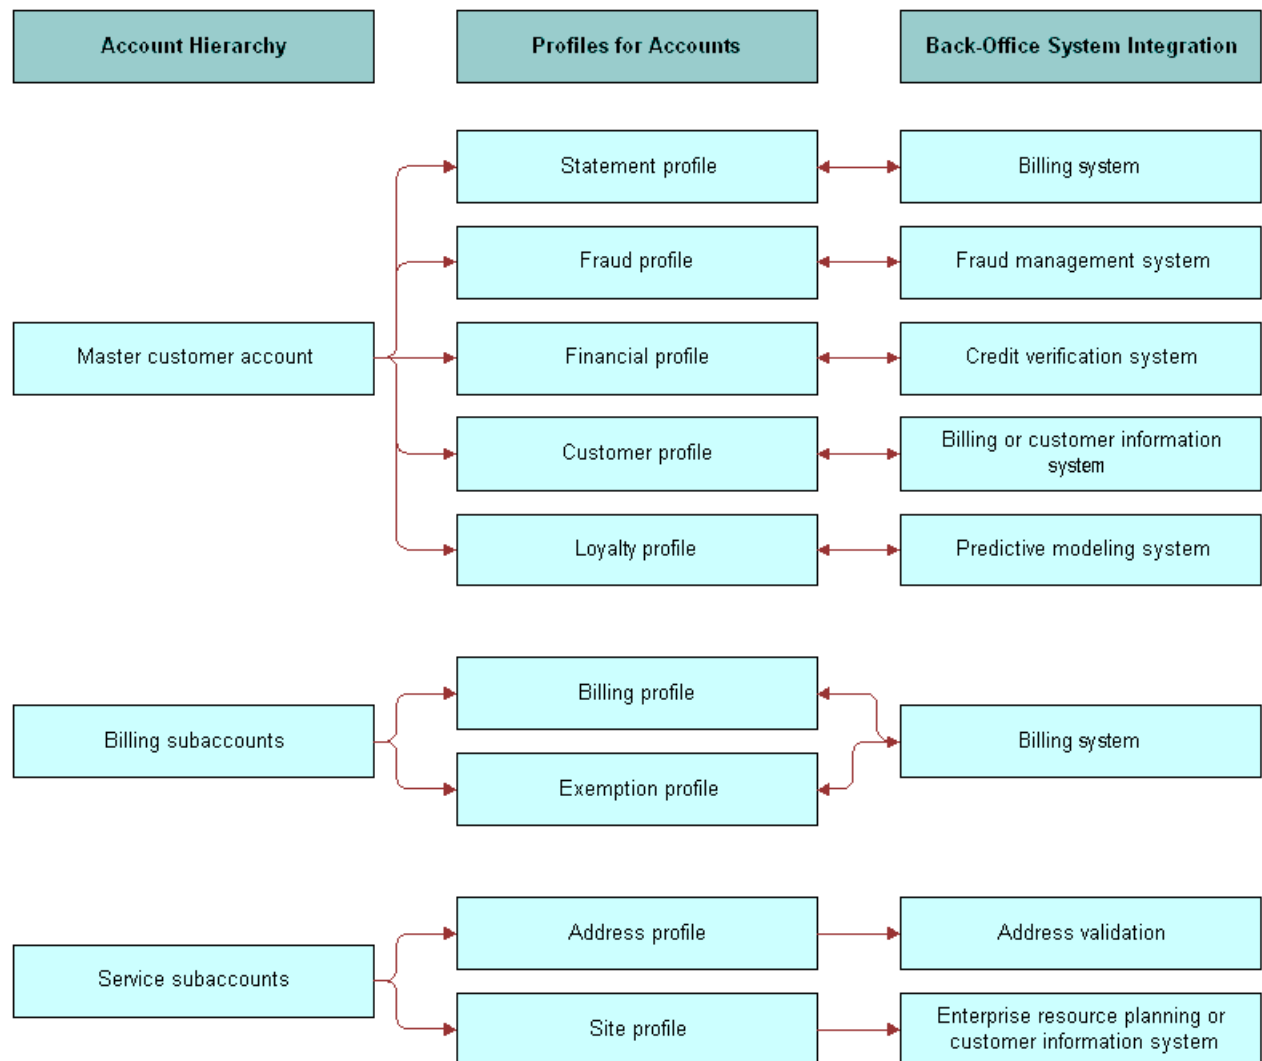

Figure 5. Interrelationships Among Accounts, Profiles, and Back-Office Applications
Figure 5 summarizes the interrelationship among accounts, profiles, and back-office applications in the business scenario.
**NOTE:** For simple residential customer accounts (those not separated into billing and service accounts), all profiles are directly associated with the customer account and not with subaccounts as shown in Figure 5.